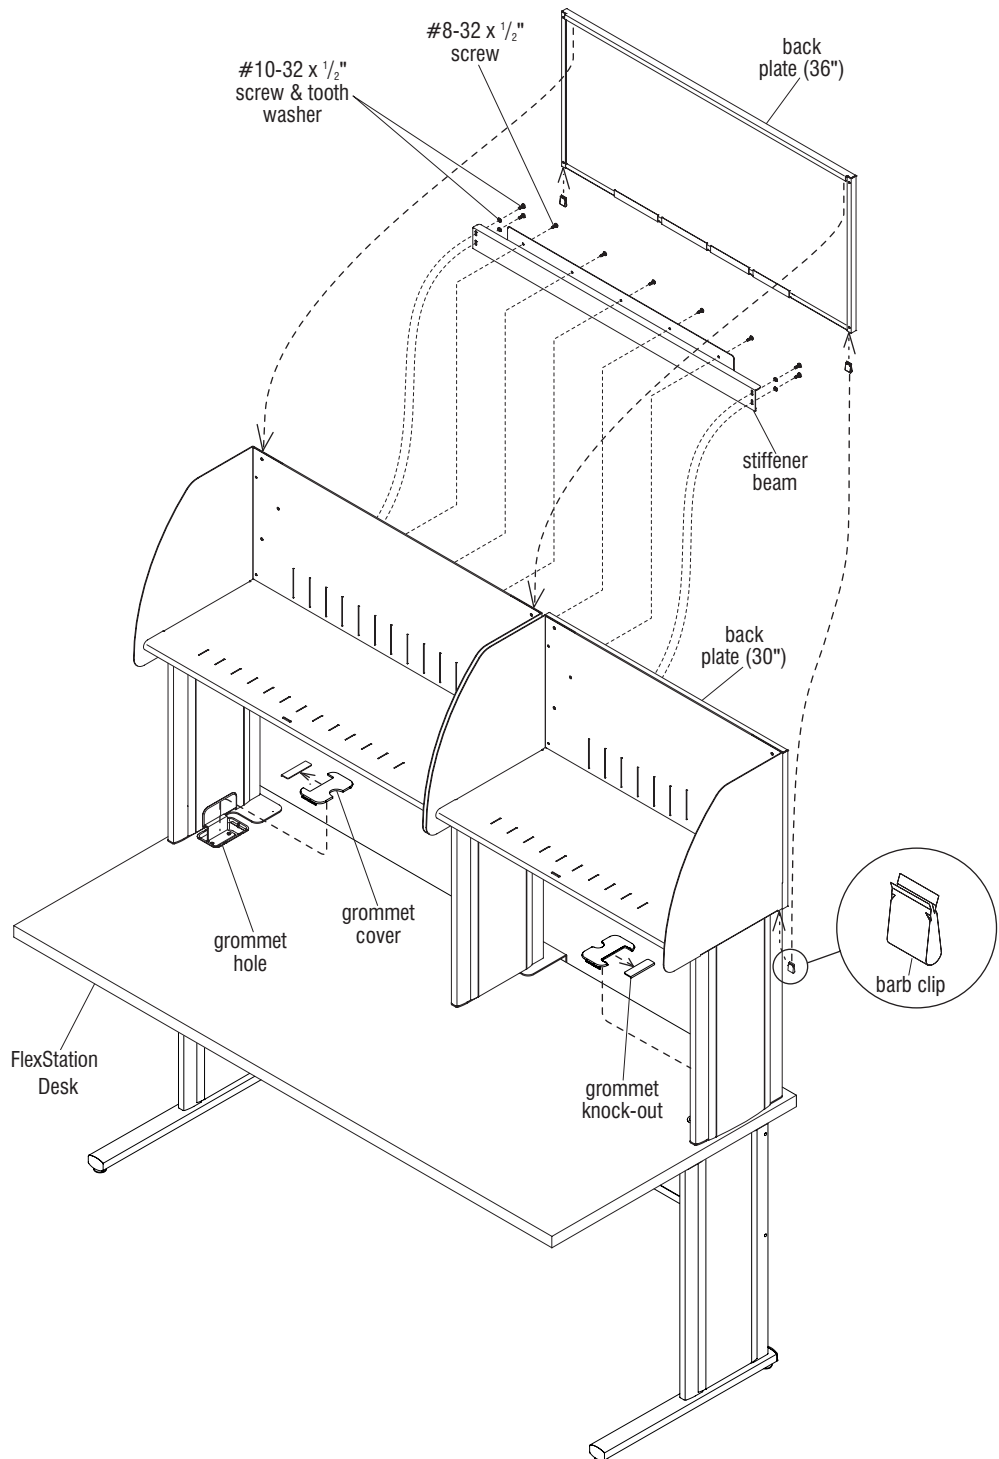

Figure 14
7. Position the stiffener bar as illustrated to the lower rear of each back shelf, align mounting holes and secure beam to shelf back using the required number of #8-32 x 1/2" screws. Also, at each end of the stiffener beam, use two #10-32 x 1/2" screws with tooth washers and secure the beam to the top rear of the right- and left-hand stanchions (Figure 14).
8. Orient the back plates as illustrated behind each shelf unit, then hang each onto the back of the shelf backs such that the top vertical flange of the back plate captures the top inside edge of the shelf back. Use the two barb clips provided per shelf unit and press them up at the underside of the cabinet to attach the bottom of each back plate to the bottom, rear of the corresponding shelf back (Figure 14).
9. Take grommets removed in step one and remove the knock-outs from each. Snap the grommets back into place in the grommet hole at the installed stanchions (Figure 14).